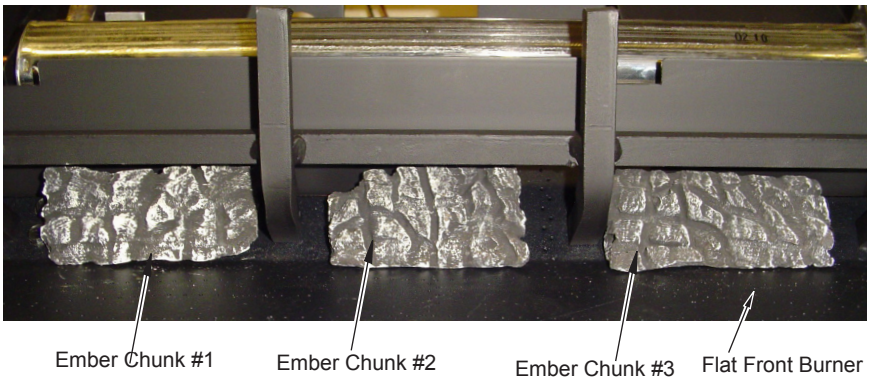

Figure 28 - Ember Chunk Placement BGE2436 Series
- Ember Chunk Placement.** The BGE2436 burner systems include three ember chunks that are designed to fit over shoulder screws on the ember pan burner. The bottom of each ember chunk has a hole for securing the ember chunk in place when it is placed over a shoulder screw. Place the ember chunks as shown in Figure 28 on page 21 by placing the ember chunk with the number "1" on the left, "2" in the center, and "3" on the right. These numbers are embossed on the back of each piece for identification purposes. Please note that BGE18 burner systems do not include ember chunks.